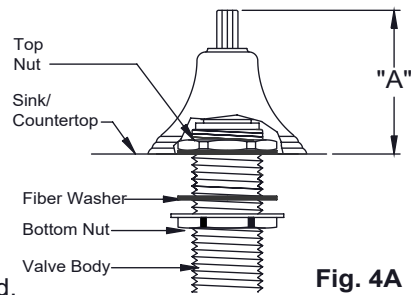

Fig. 4A
-Insert valve through hole from below and install top nut (if applicable), and adjust to proper height, see Fig. 4A (also refer to "A" dimension).
The trim to those products do not require a top nut to be installed on the valve (See Fig. 4A)